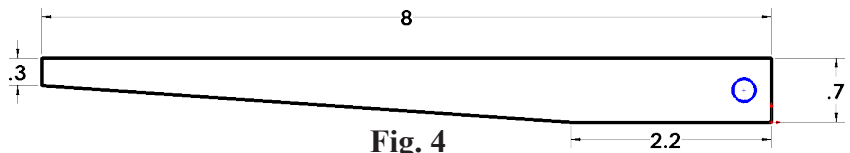

Fig. 4
Step 7. Click **Circle**  (S) on the Sketch toolbar.
Step 8. Draw circle for hole, **Fig. 4**.